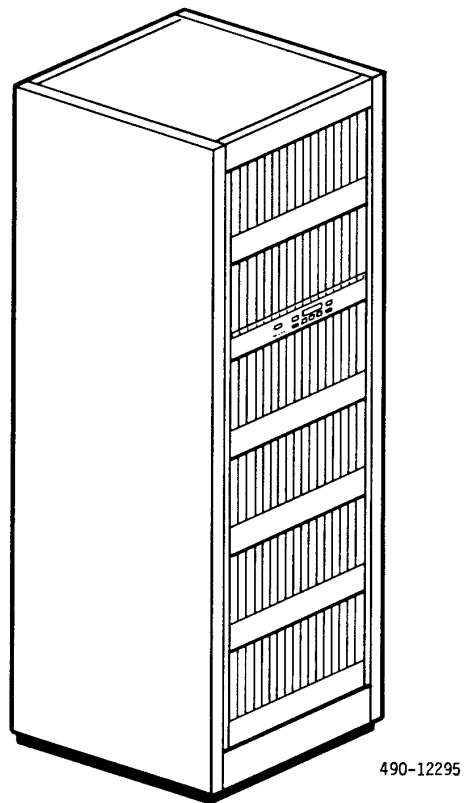

Figure 3-5. 72-Inch Cabinet Fully Configured with Six COMSPHERE 3000 Series Carriers
5. Install the next carrier in the same manner (from the bottom up) using Steps 1 through 4. Up to six carriers can be installed in a cabinet (Figure 3-5).